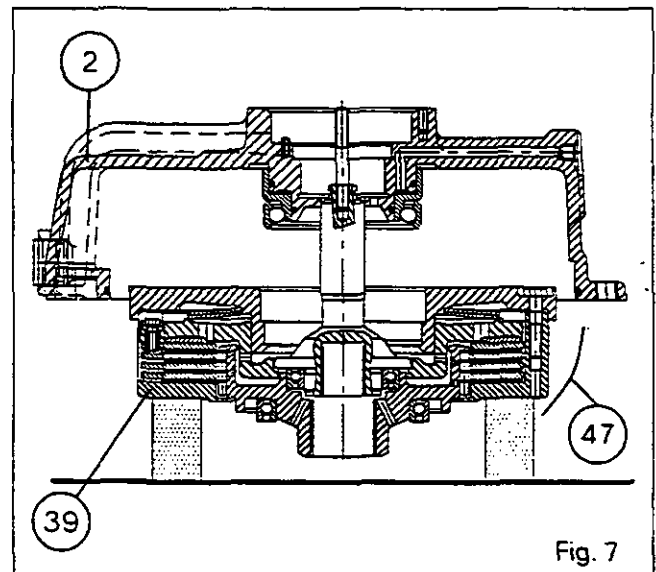
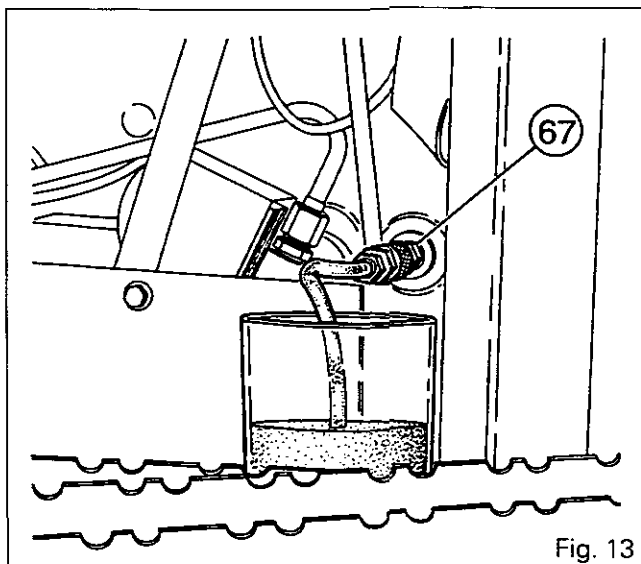

Fig. 7
Fig. 13
29. Remove the nut (50). Place the housing and clutch assembly vertically, with the housing (39) resting on a support (Fig. 7).
30. Remove the screws (54). Remove the cover (9) with its oil seal.
31. Remove the O ring (1).
32. Extract the input shaft (7). Remove the circlip (43). Extract the roller bearing (55).
33. Remove the pump cover (11) and the lubrication pump (53).
34. Separate housing (2) from the clutch (47) (Fig. 7).
35. Remove the release bearing (46) using compressed air.
36. Remove the quading seals (48) (49).
37. If necessary, remove the lock pin (24).
57. Check that the grooves in the housing (2) are not blocked.
58. Replace the stud (24), if it is out.
59. Lubricate and install the quading seals (48) (49) in the housing.
60. Press fit the release bearing (46).
61. Install the housing (2) on the clutch assembly (47) (Fig. 7).
62. Grease and install the pump (53).
63. Mount the pump cover (11) with the hole marked "T" directed towards the lock pin (24) while checking fuel holes alignment (Fig. 13).
64. Fit the roller bearing (55) on the input shaft (7).
65. Mount the circlip (43).
66. Place the greased O-ring (16) on the plate shaft (41).
67. Mount the input shaft in the housing (2). Place the O-ring and the protector (No. 3378052M1) (1). Mount the cover (9) with its oil seal (57). Torque screws (54) to 10 - 14 Nm with a torque wrench.
68. Tighten the nut (50) to 25 - 32 Nm. Apply Loctite 542.
71. Connect no 3582045M1 fitting and its hose on drain tap (67), according to Fig. 13.